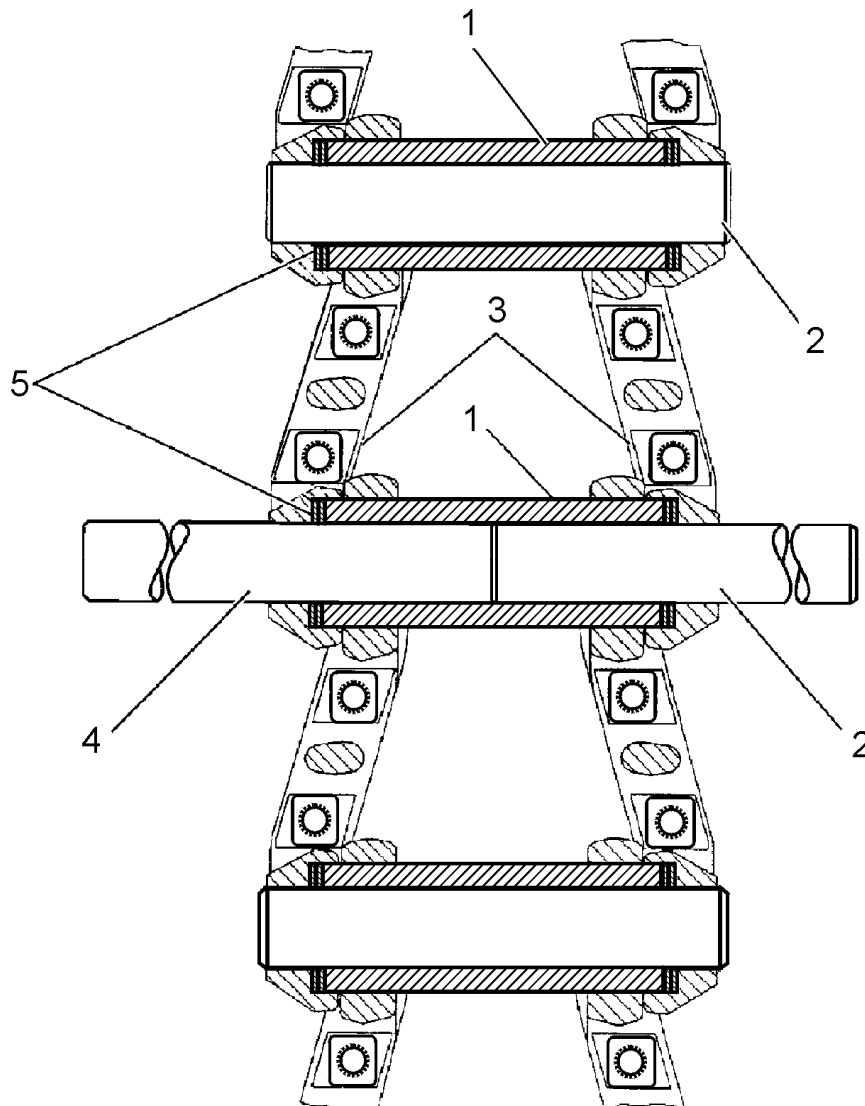
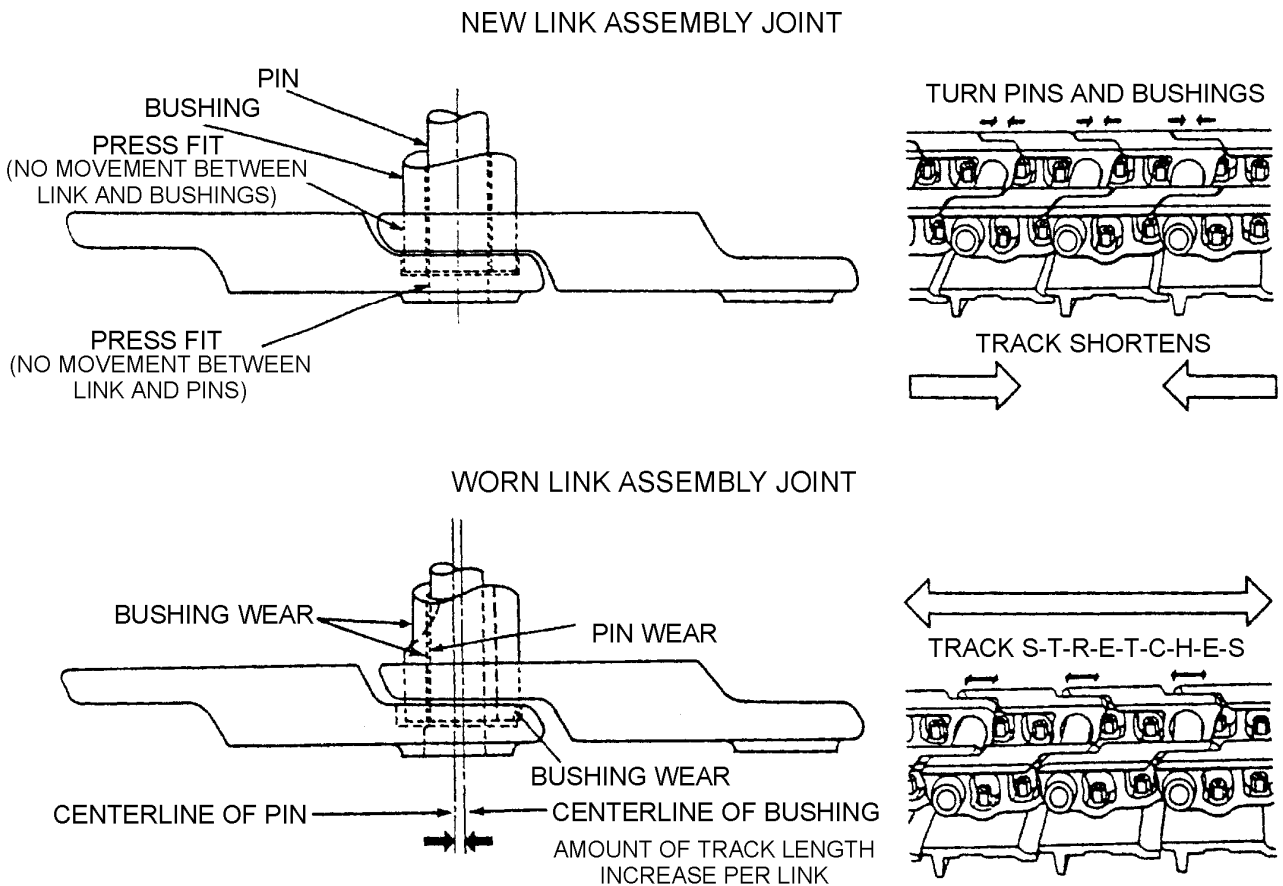

Fig. 15.19. Assembly of New Links
Fig. 15.20. Showing Effects of Track Pin and Bushing Wear
4. Remove and replace the damaged link or links. Assemble the two loose, right and left, track links using a bushing (Fig. 15.19). Assemble a bushing also into the links attached to the track (Fig. 15.20). Place the spring seal washers into the link counterbore (Fig. 15.19). Place the bushing and links assembly onto the track and insert the aligning pin to hold the track link alignment while the new pin is pressed in position (Fig. 15.19). Use the aligning pin again when joining the two sections of track.
Since wear occurs on one side of the link pins and bushing (Fig. 15.20), the track pins and bushings can be reversed to obtain additional service from the track. To do this, press out all the track pins and bushings. Rebuild the track chain, pressing the pins and bushings in so that they are turned 180 degrees (1/2 turn). Follow the instructions furnished with the track pin press and installing tool. Be sure the sealing washers are installed as described below in Par. 8 "INSTALLATION". By doing this, the unworn surface of each pin is operating against the unworn surface in its bushing and the unworn outside surface of the bushing which contacts the sprocket.